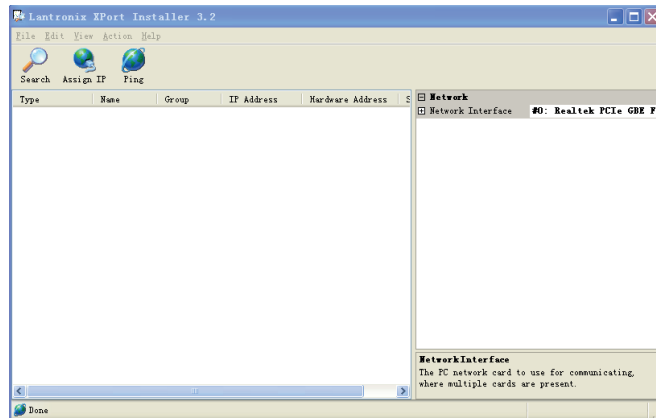

Figure 2: User interface of Lantronix Xport Installer 3.2
(1). Click **“START”** → **“PROGRAM”** → **“Xport Installer”** → **“Xport Installer”** and enter the user interface of Lantronix Xport Installer 3.2, shown as figure 2: